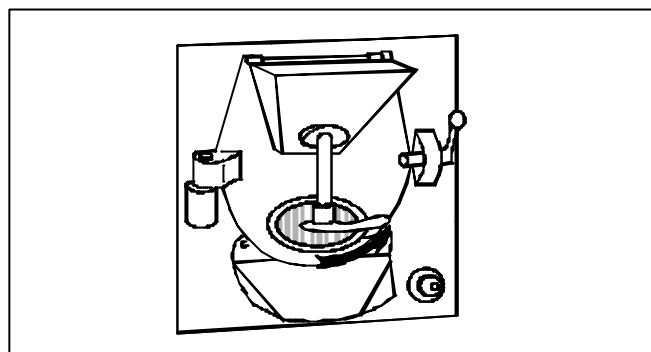

Figure 22
- Turn the handle 90° to the left (ref. Fig. 22).